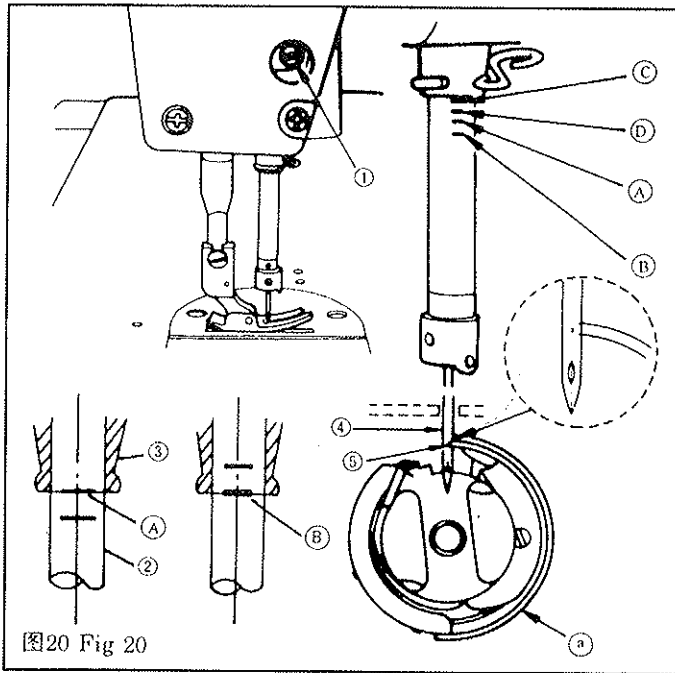

图20 Fig 20
- 1) Loosen two setscrews ② and ③ on feed eccentric cam ①, properly position the eccentric cam. Then retighten the setscrews.
14. 针与旋梭的关系(图 20)
14. NEEDLE-TO-HODK RELATIONSHIP (Fig.20)